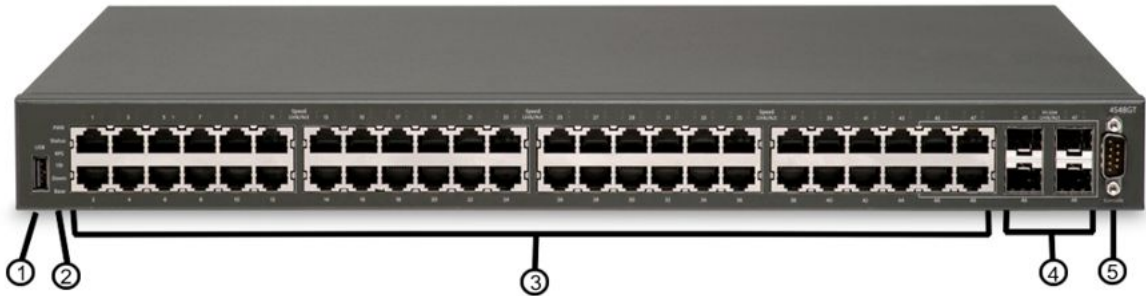

Figure 7: Avaya Ethernet Routing Switch 4548GT
- Figure 7: Avaya Ethernet Routing Switch 4548GT on page 46